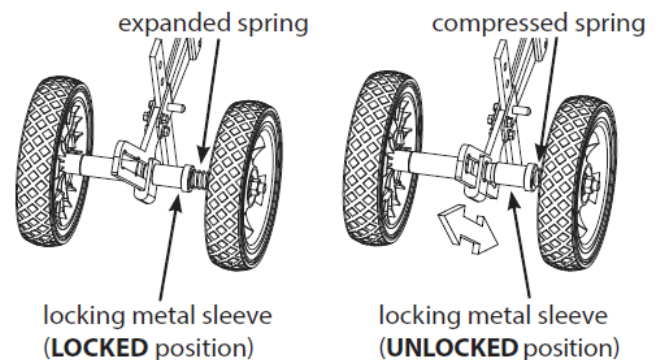

Figure 8
1. Pull the locking metal sleeve against the spring, away from the vertical guide until it releases from one of the three notched positions in the vertical guide (**Figure 8**).